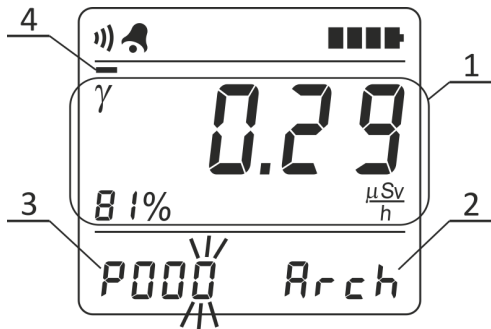

Figure 2.8 – LCD of the radiometer (submode of measurement result saving)
2.3.3.6.25 To save the measurement result in the nonvolatile memory, shortly press SAVE button in the mode of displaying the measured characteristics of ionizing radiation. The radiometer will switch to the submode of measurement result saving. "Arch" (2) characters on the LCD of the radiometer are the indication of this submode (Figure 2.8).